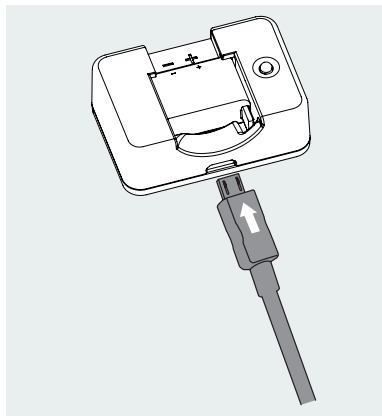

Figure 11
**2** Insert the small end of the cable into the pump battery charger as shown in Figure 11. The large end of the cable should be inserted into the PDA charger.